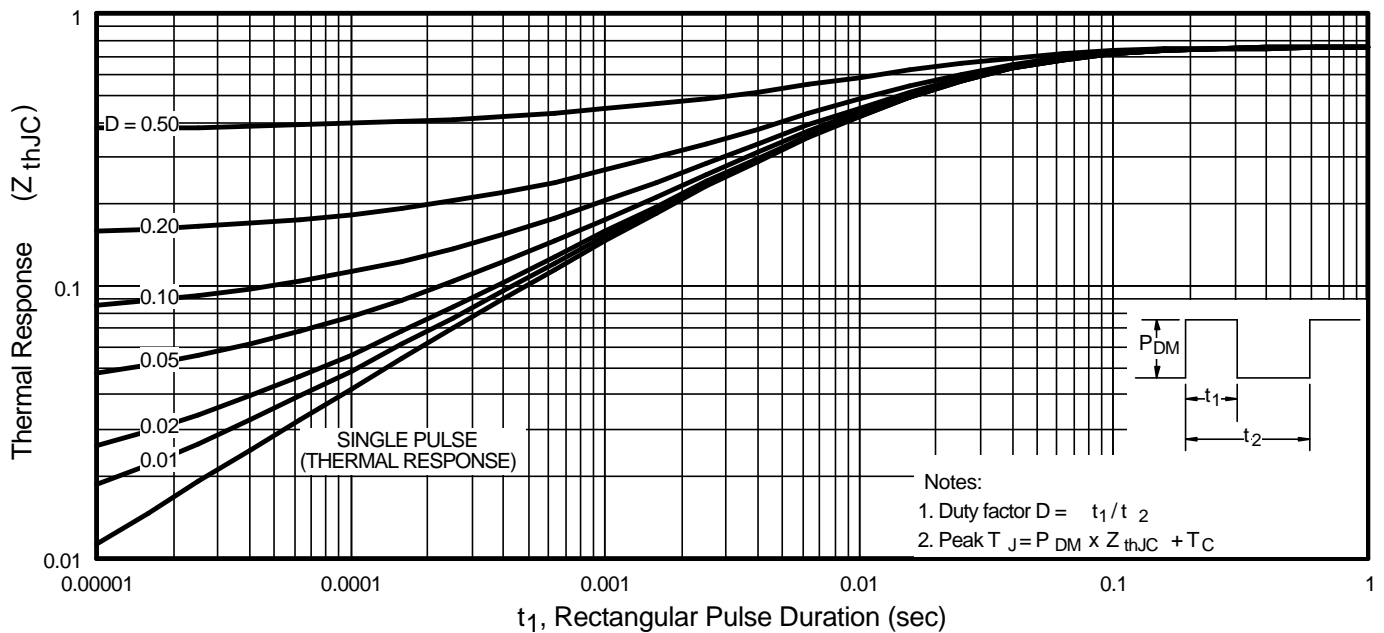

Fig 11. Maximum Effective Transient Thermal Impedance, Junction-to-Case
- ① Repetitive rating; pulse width limited by max. junction temperature. (See fig. 11)
- ② Starting $T_J = 25^\circ\text{C}$, $L = 1.3\text{mH}$